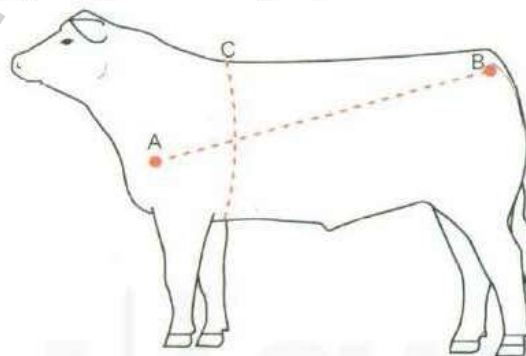

Fig 4.1: Measuring length and girth
- 3) Measure the body length of the animal (AB) using the measuring tape in inches and note it down (Fig 4.1).
- 4) Measure the chest girth (C) using a measuring tape in inches and note it down.